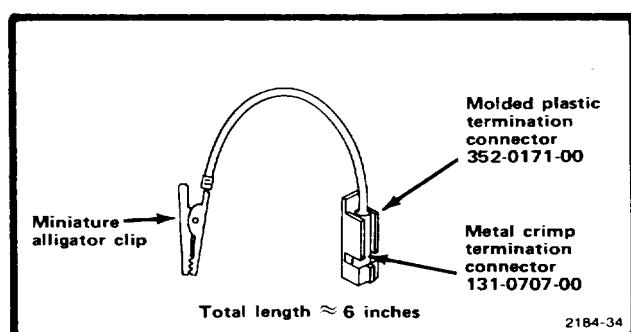

Figure 4-19. Suggested construction for a shorting strap calibration fixture.
----1. Install a shorting strap (Fig. 4-19) from TP1790, TP1795, and TP1820 (Fig. 4-15), to chassis ground.